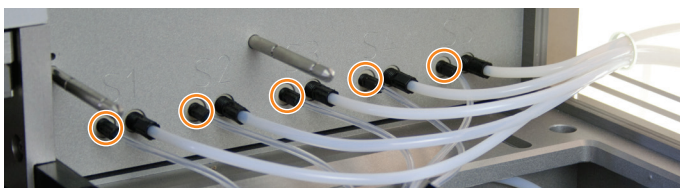

Figure 61. The connections on the back wall for the five solvent tubes connected to the solvent feeder.
- a. Unscrew the tubes from the back wall (see Figure 61).